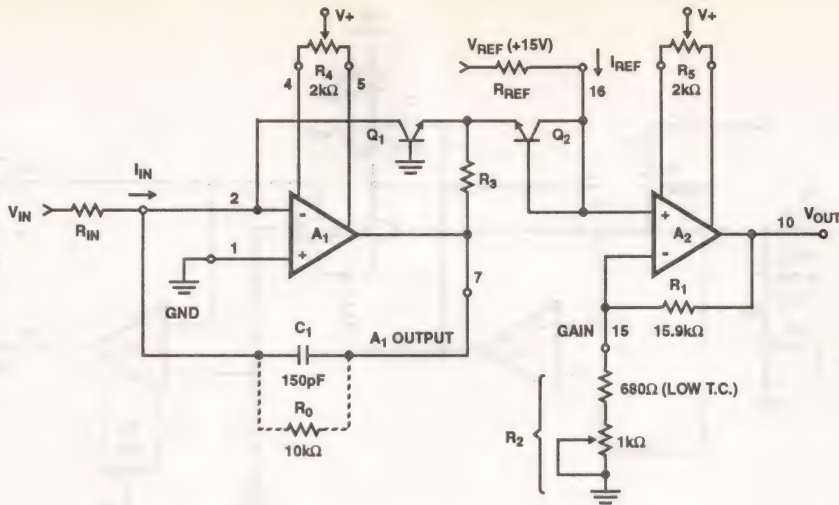
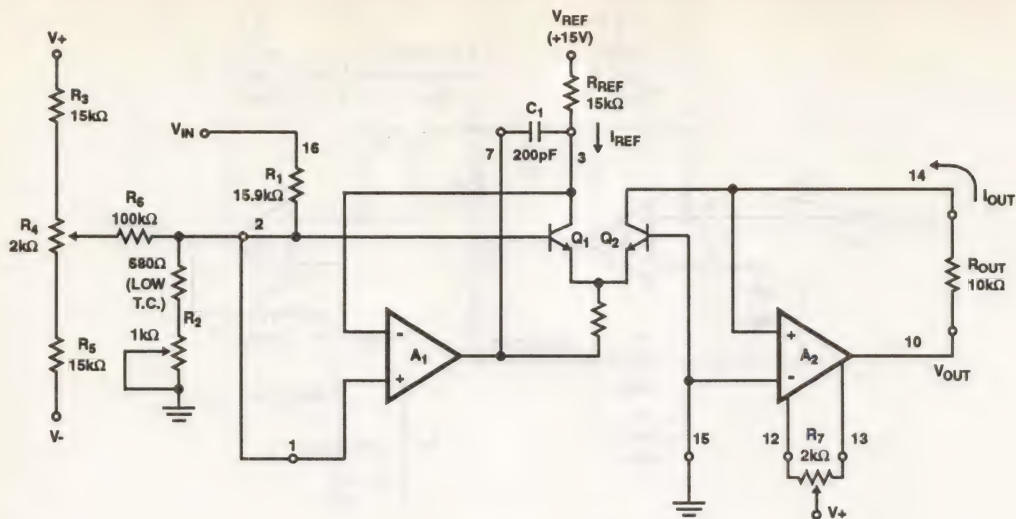
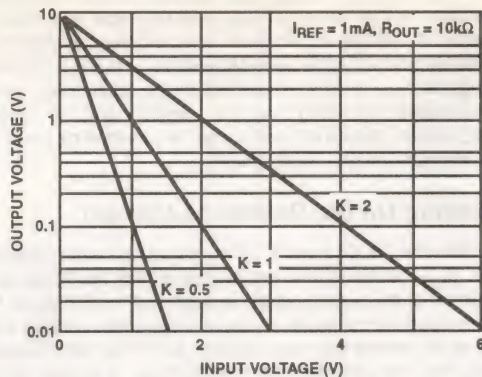
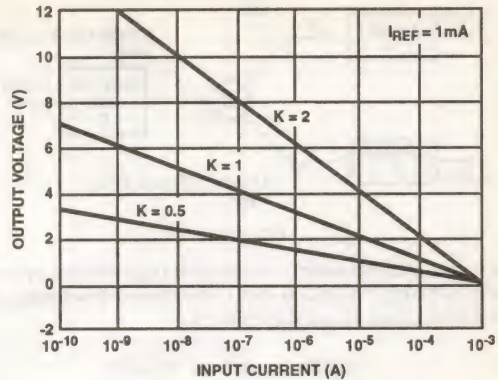

FIGURE 11. ICL8048 OFFSET AND SCALE FACTOR ADJUSTMENT
FIGURE 12. ICL8049 OFFSET AND SCALE FACTOR ADJUSTMENT
FIGURE 13. EFFECT OF VARYING "K" ON THE ANTILOG AMPLIFIER
FIGURE 14. EFFECT OF VARYING "K" ON THE LOG AMPLIFIER
Referring to Figure 11 it is clear that the potential at the collector of  $Q_2$  is equal to the  $\Delta V_{BE}$  between  $Q_1$  and  $Q_2$ . The output voltage is  $\Delta V_{BE}$  multiplied by the gain of  $A_2$ :
A log amp, unlike an op amp, cannot be offset adjusted by simply grounding the input. This is because the log of zero approaches minus infinity; reducing the input current to zero starves  $Q_1$  of collector current and opens the feedback loop around  $A_1$ . Instead, it is necessary to zero the offset voltage of  $A_1$  and  $A_2$  separately, and then to adjust the scale factor. Referring to Figure 11, this is done as follows:
The ICL8049 relies on the same logarithmic properties of the transistor as the ICL8048. The input voltage forces a specific  $\Delta V_{BE}$  between  $Q_1$  and  $Q_2$  (Figure 12). This  $V_{BE}$  difference is converted into a difference of collector currents by the transistor pair. The equation governing the behavior of the transistor pair is derived from (2) on the previous page and is as follows:
As with the log amplifier, the antilog amplifier requires three adjustments. The first step is to null out the offset voltage of  $A_2$ . This is accomplished by reverse biasing the base-emitter of  $Q_2$ .  $A_2$  then operates as a unity gain buffer with a grounded input. The second step forces  $V_{IN} = 0$ ; the output is adjusted for  $V_{OUT} = 10V$ . This step essentially "anchors" one point on the transfer function. The third step applies a specific input and adjusts the output to the correct voltage. This sets the scale factor. Referring to Figure 12 the exact procedure for 1 decade/volt is as follows:
By adjusting  $R_2$  (Figure 11 and Figure 12) the scale factor "K" in equation 9 and 10 can be varied. The effect of changing K is shown graphically in Figure 13 for the log amp, and Figure 14 for the antilog amp. The nominal value of  $R_2$  required to give a specific value of K can be determined from equation 11. It should be remembered that  $R_1$  has a  $\pm 20\%$  tolerance in absolute value, so that allowance shall be made for adjusting the nominal value of  $R_2$  by  $\pm 20\%$ .
Although the op amps in both the ICL8048 and the ICL8049 are compensated for unity gain, some additional frequency compensation is required. This is because the log transistors in the feedback loop add to the loop gain. In the ICL8048, 150pF should be connected between Pins 2 and 7 (Figure 11). In the ICL8049, 200pF between Pins 3 and 7 is recommended (Figure 12).
In both the ICL8048 and ICL8049 the input current reference pin (IREF) is not a true virtual ground. For the ICL8048, a fraction of the output voltage is seen on Pin 16 (Figure 11). This does not constitute an appreciable error provided VREF is much greater than this voltage. A 10V or 15V reference satisfies this condition. For the ICL8049, a fraction of the input voltage appears on Pin 3 (Figure 12), placing a similar restraint on the value of VREF.